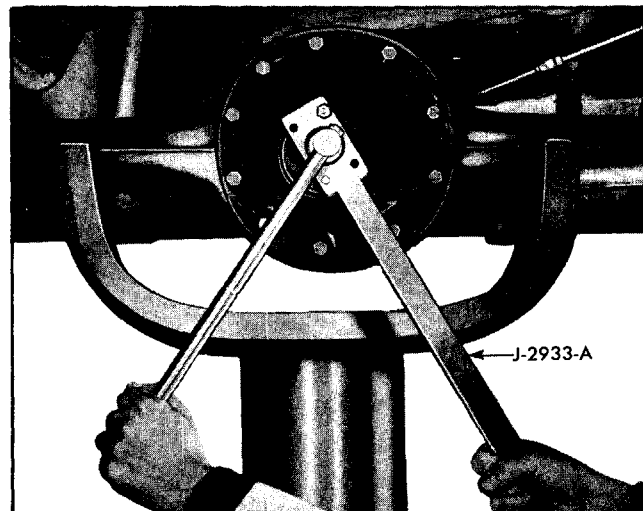
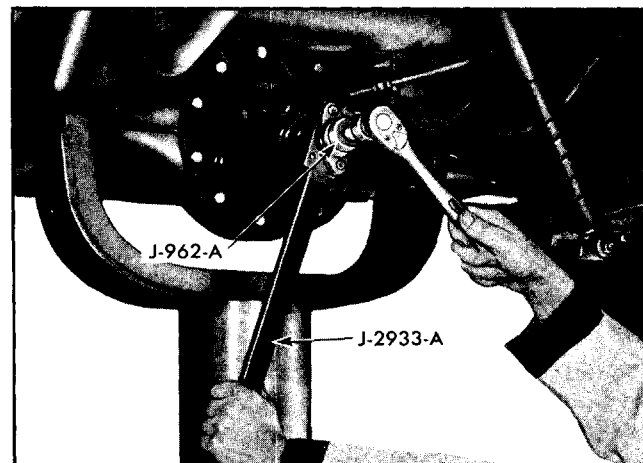

Fig. 4-5 Holding Companion Flange With Holding Tool J-2933-A
Fig. 4-6 Removing Companion Flange With Puller J-962-A
4. Hold companion flange with Holding Tool J-2933-A (Fig. 4-5) and remove drive pinion nut and washer using a heavy duty socket.
5. Remove companion flange using Puller J-962-A (Fig. 4-6).
2. Remove drive pinion nut and washer using Holding Tool J-2933-A (Fig. 4-5); remove companion flange, using Puller J-962-A (Fig. 4-6).